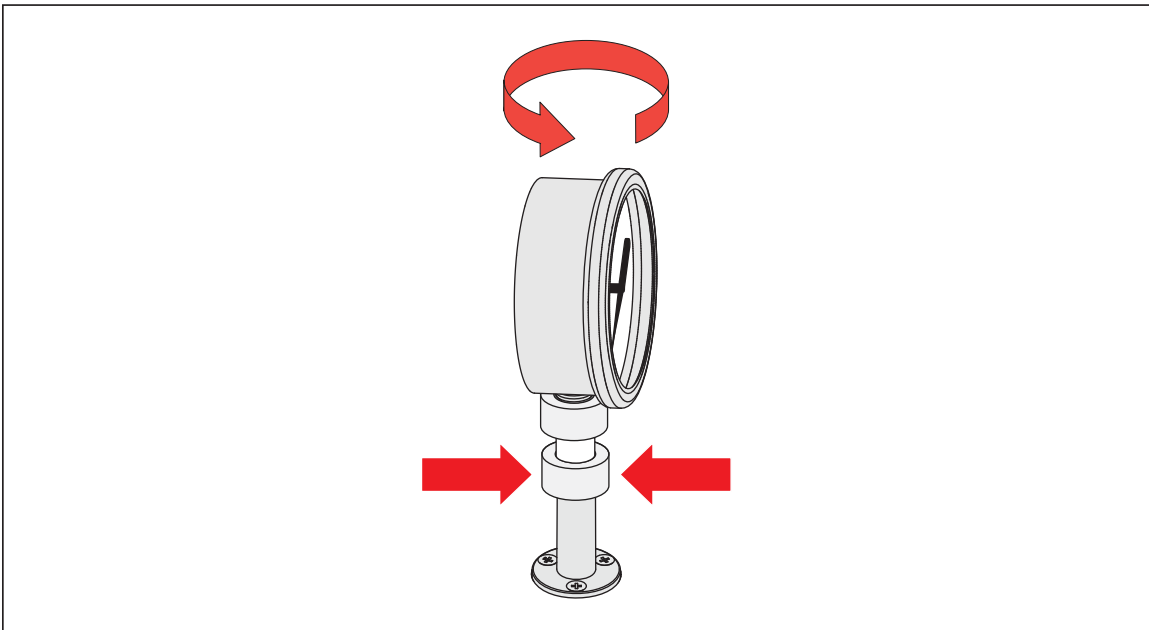

Figure 8. Adjust Gauge Position
3. To adjust the position to face forward, hold the gauge adapter and turn the instrument COUNTER-CLOCKWISE, so that it faces forward, see Figure 8.